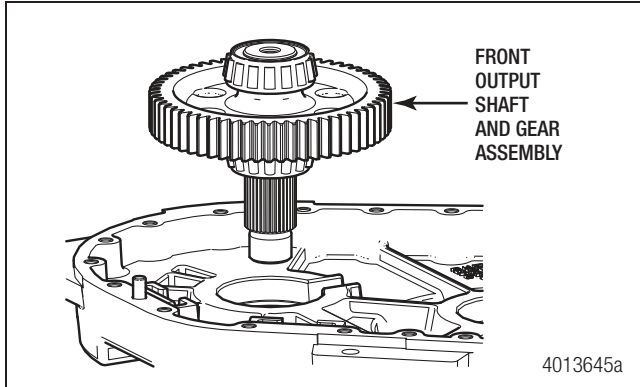

Figure 7.18
1. Install the output gear assembly in the front case half. Figure 7.18.